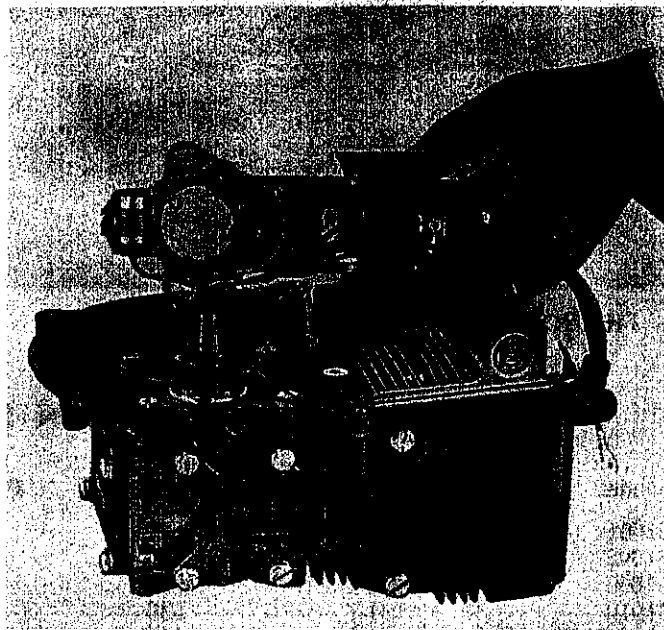

FIGURE 7. REMOVING STATOR PLATE
11. Note the position of the stator plate with reference to the location of the three mounting screws, as described in step 6. Remove the three screws and remove the stator plate from the engine as shown in Fig. 7.